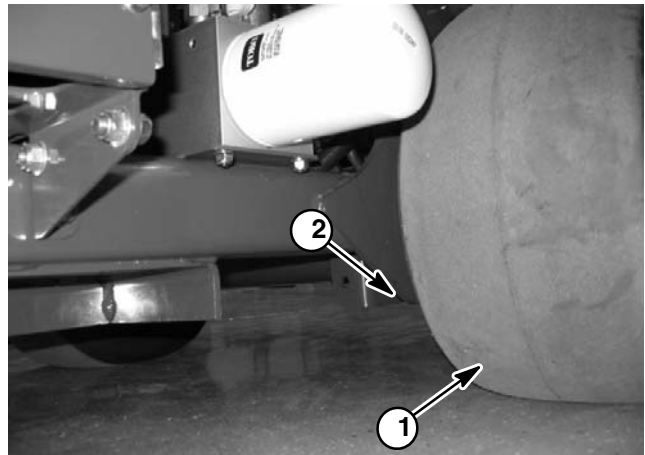

Figure 2
2. Place jack securely under the frame plate just inside of the rear wheel (Fig. 2).